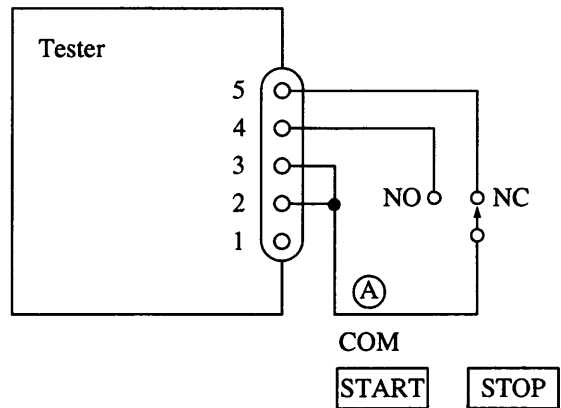

Figure 4.4
- (c) In the case of the setup shown in Figure 4.4, the test voltage is turned on when the switch is thrown to the NO position, and the Tester is forcefully stopped when the switch is thrown to the NC position.